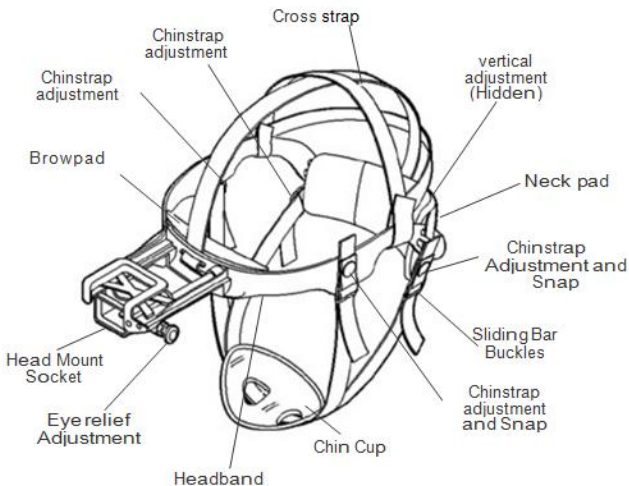
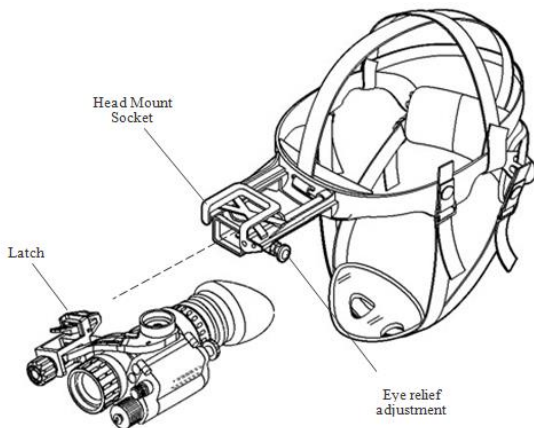

Figure 2.10. NVM Head mount adjustments
Figure 2.20. Head mount/ Helmet mount adapter operation
(1) Prior to donning the head mount, loosen the four ends of the chinstrap approximately five cm. from the sliding bar buckles (Figure 2.10.).
(2) Snap the front and rear snaps (Figure 2.10.) in place.
(3) With both hands grasp the neck pad (Figure 2.10.) and pull the harness over your head and the neck pad down to the back of your neck.
(4) Holding the chin cup in position on chin, adjust both sides of the chinstrap until you feel light pressure against your chin. (Do not tighten.)
(5) Maintain the position of the chin cup and remove any slack from the chinstrap. (Do not tighten.)
(6) Ensure that the cross-strap is not twisted and remove slack by adjusting the vertical adjustment at the neck pad.
(7) Adjust chinstrap and vertical adjustment until the chin cup and headband are in a comfortable but firm position.
It may be necessary to remove the browpad (Figure 2.10.) when wearing the head mount over a protective mask.
(3) Align the head mount/helmet mount adapter's latch to the head-mount socket (Figure 2.20.). press and hold down the latch lever while installing the monocular into the head mount socket.
(4) Set your eye relief by depressing the eye relief adjustment (Figure 2.20.) and move the monocular back toward your non-dominate eye until the eyecup comfortably seals around the eye.
(5) Turn the monocular on.
(6) Readjust the vertical adjustment (Figure 2.10.) of the head-mount until the monocular is properly aligned with your eye.